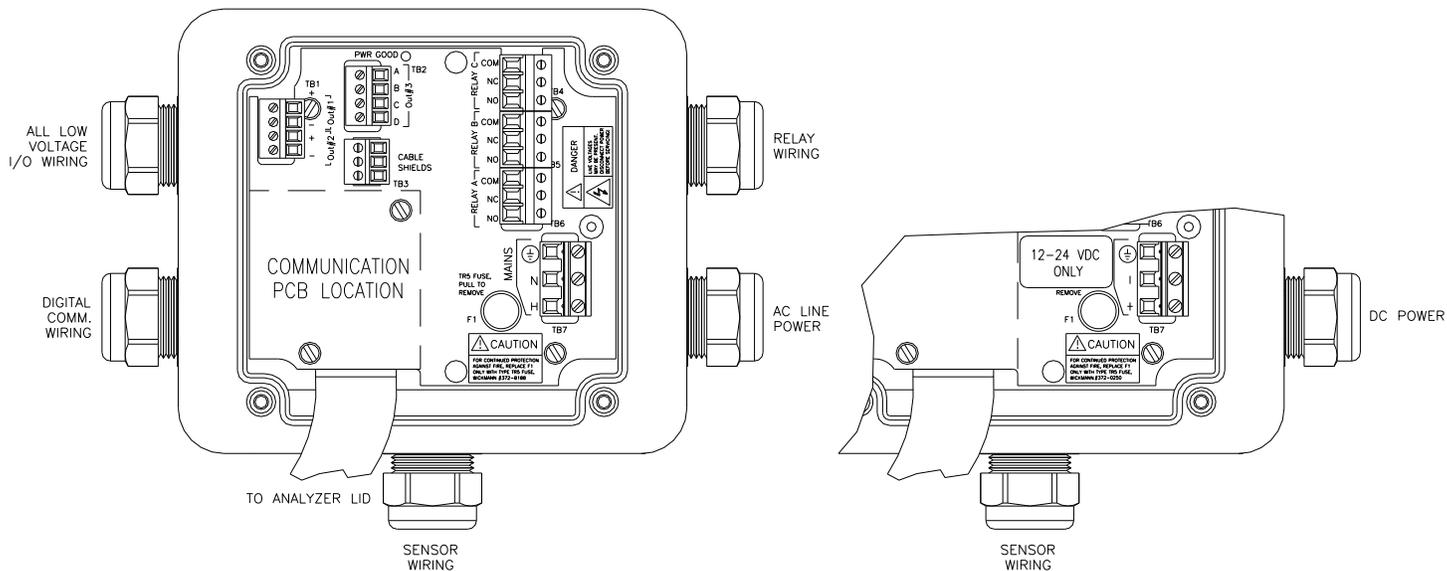

Figure 9 - Line Power Connection
FIGURE 9 - LINE POWER CONNECTION.....	15
1. Use wiring practices that conform to all national, state and local electrical codes. For proper safety as well as stable measuring performance, it is important that the earth ground connection be made to a solid ground point from terminal 12 (Figure 9).
The power strip, **TB5**, allows up to 12 AWG wire. A wire gauge of 16 AWG is recommended. DC powered units are connected to the same terminals used for AC connections and are marked as indicated in Figure 9 above.